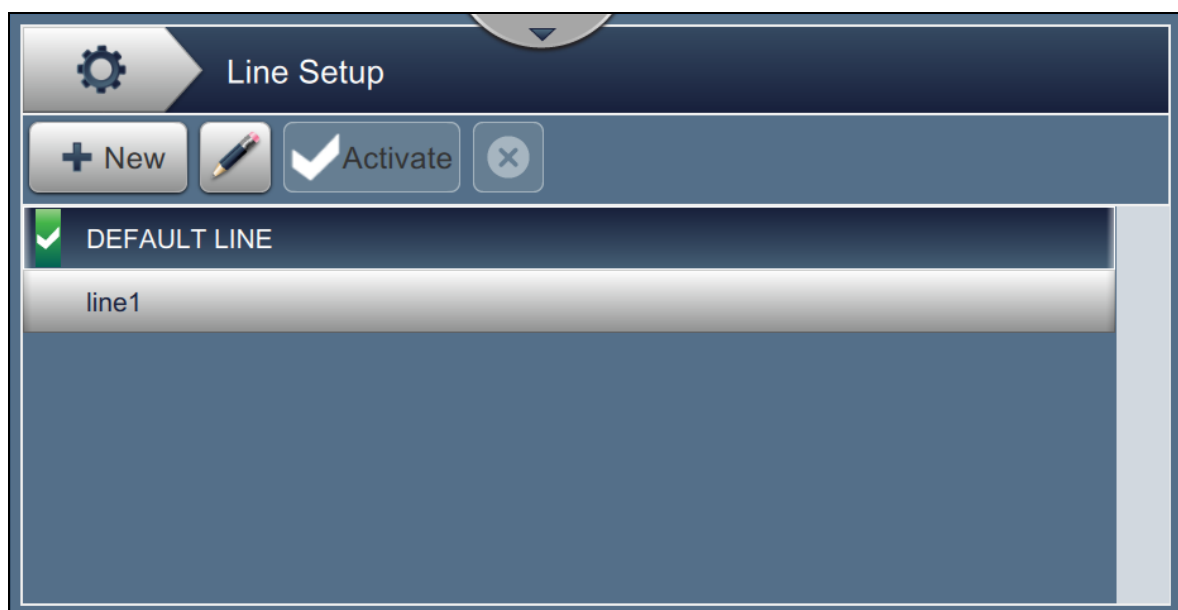

Figure 6-26: Line Setup Screen
2. Touch the  button on the Line Setup screen to create a new line setup as shown in Figure 6-26. Line Setup Name screen opens with an utility keypad.